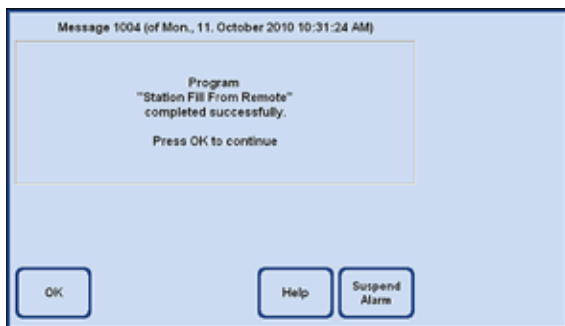

Fig. 173
- After the rinsing has been completed, a message appears (Fig. 173), informing you that remote filling has been completed. To end the process, press **OK**.